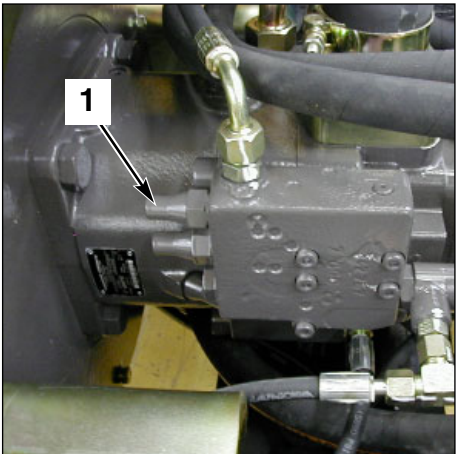

Fig. 4 Equipment pump
- 5- Turn the screw (1 fig. 4) clockwise in order to increase the ΔP .